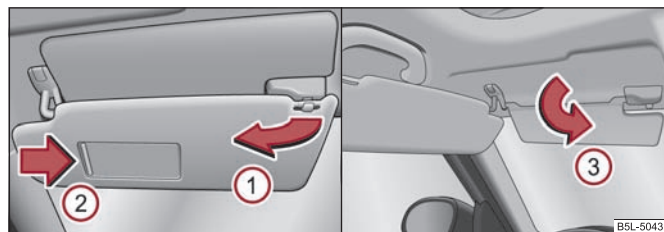

Fig. 49 Sun visor: Swivelling out / double sun visor: Folding out
You can pull the sun visor for the driver or front passenger out of the fixture and swivel it toward the door in the direction of the arrow ① ⇒ fig. 49.
On vehicles which are equipped with double sun visor\*, you can also unfold the auxiliary visor in direction of arrow ③ ⇒ fig. 49 after swivelling the sun visor.